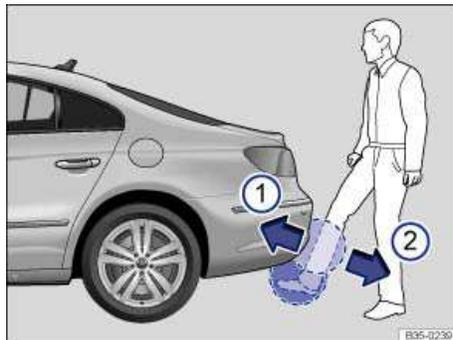

Fig. 38 Keyless Access locking and starting system: Opening the sensor-controlled luggage compartment lid (Easy Open), if equipped.
When a valid vehicle key is within range of the luggage compartment lid ⇒ fig. 27, the luggage compartment lid can be unlocked and opened by moving your foot within the sensor's range ⇒ fig. 38 below the rear bumper.
- Quickly move your foot and shin as close to the bumper as possible. Your shin must be in the upper part of the sensor's range and your foot in the lower part ⇒ fig. 38 \(1\).
- Quickly move your shin out of range ⇒ fig. 38 \(2\). The luggage compartment lid opens automatically.